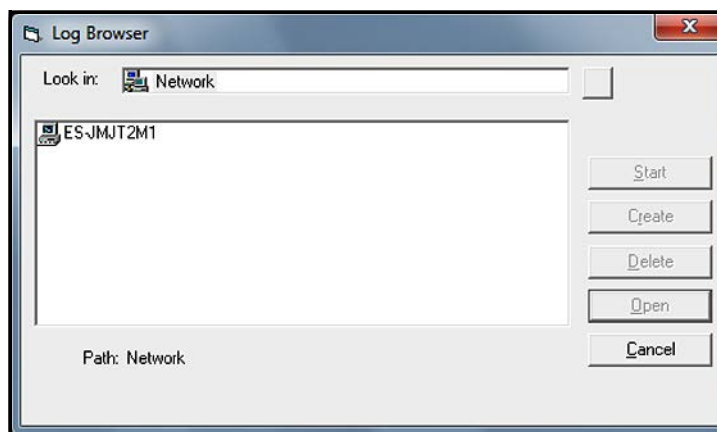

Figure 70: Computer Selection
- Click on the “Log Browser” option to open the dialog box shown in Figure 70 below.